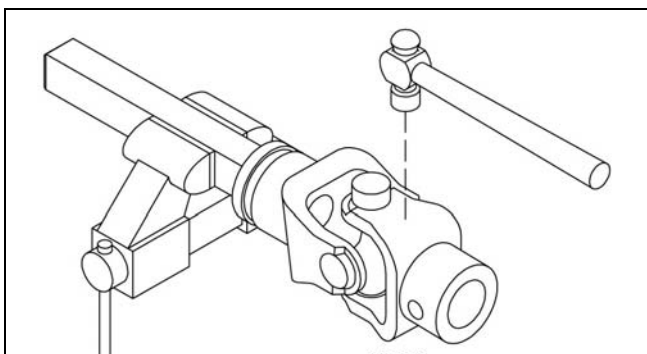

Figure 18. Remove Cups
2. With snap rings removed, support drive in vise, hold yoke in hand and tap on yoke to drive cup up out of yoke. See Figure 18.